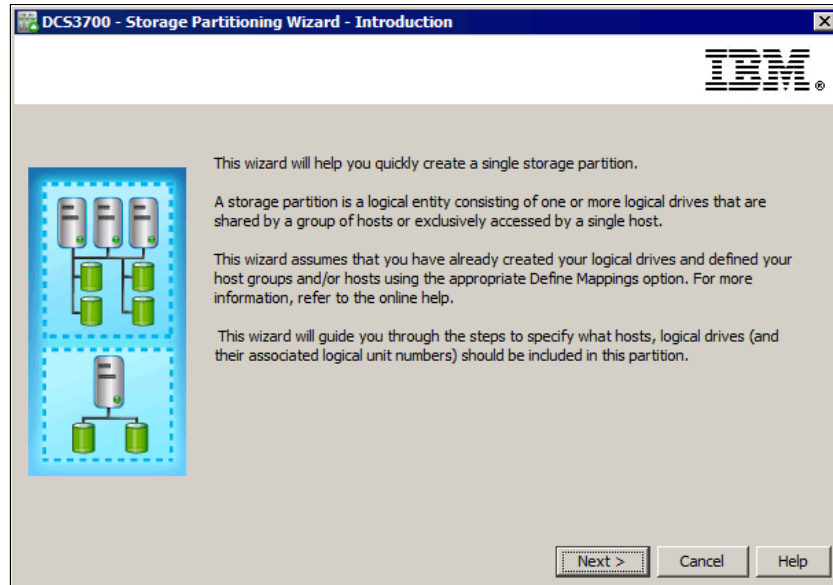
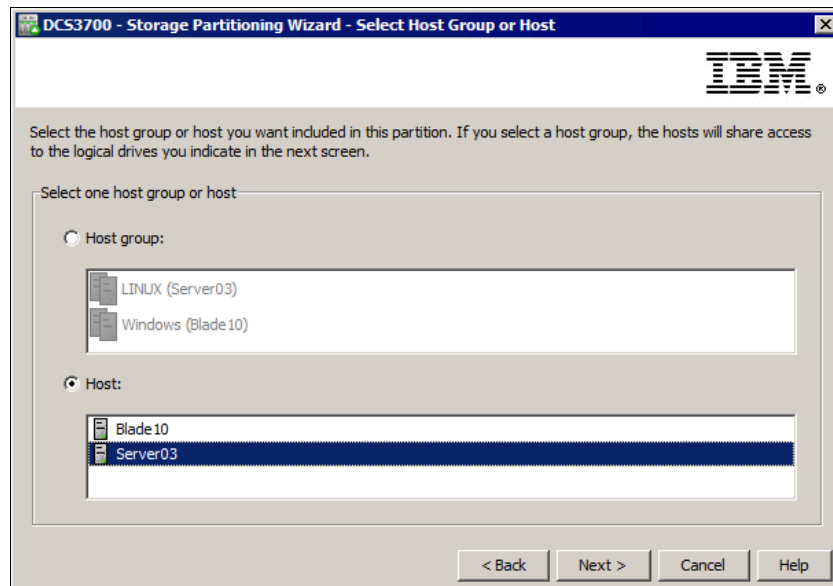

Figure 10-13 Storage Partitioning - Introduction
Figure 10-14 Storage Partitioning - Select Host or Host Group
2. After the introductory window (Figure 10-13), the wizard asks you to select either a host or a host group (Figure 10-14). If you are creating a storage partition for clustered host servers, you must specify the appropriate host group. Otherwise, you can select an individual host. In this window, you can see only hosts and host groups with no logical drives mapped. If you select a host or host group before you start the Storage Partitioning wizard, it is selected in this window.